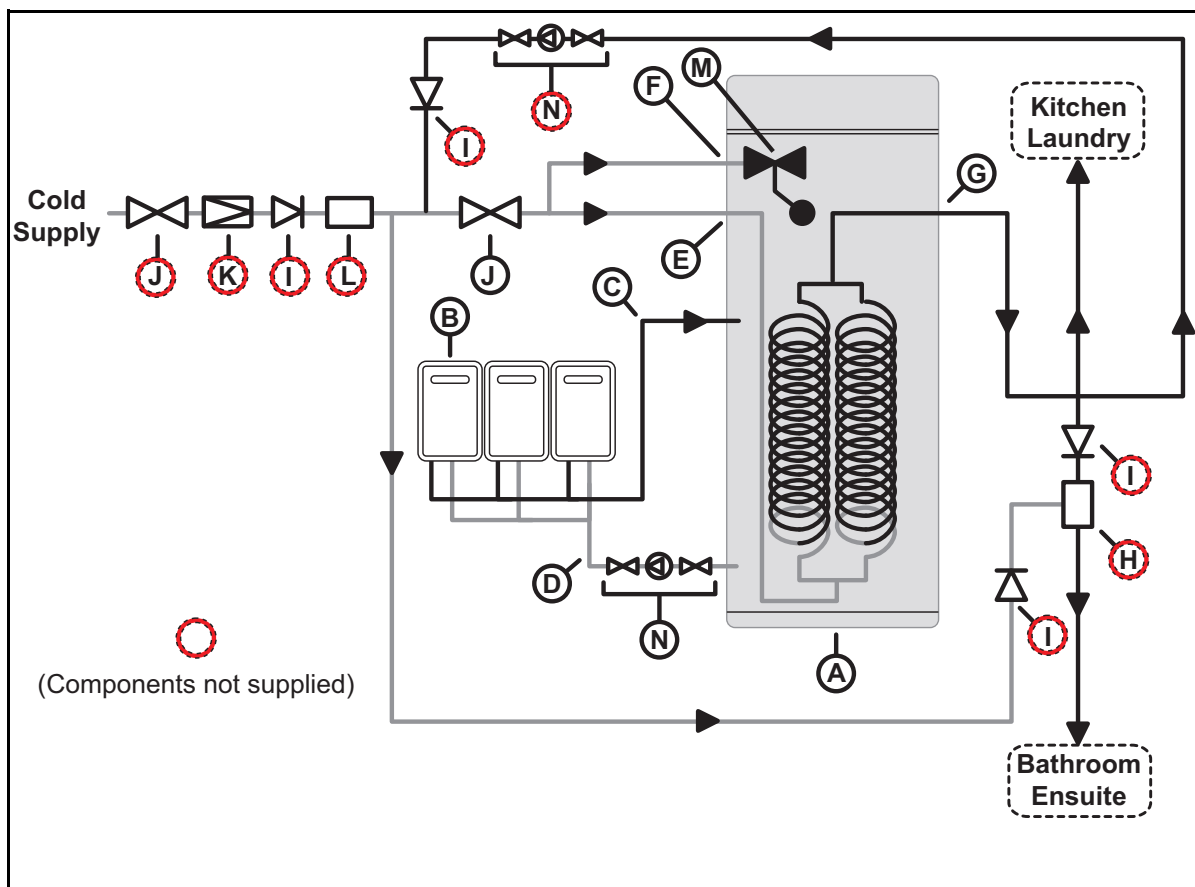

Figure 3 - Hot water plumbing system example to AS/NZS 3500.4, with temperature limiting device (TLD)
- Hot water temperature at outlet of sanitary fixtures must comply with the relevant states and territories minimum 50°C requirements. Local regulations and/or the requirements of AS/NZS 3500.4 must be considered regarding the temperature limitations of the hot water supplied to areas primarily used for the purpose of personal hygiene. The temperature of hot water to these areas may required to be limited to 50°C or less. Refer to Figure 3.
- **Additional temperature limiting/control devices will be required to achieve this. Refer to Figure 3.**